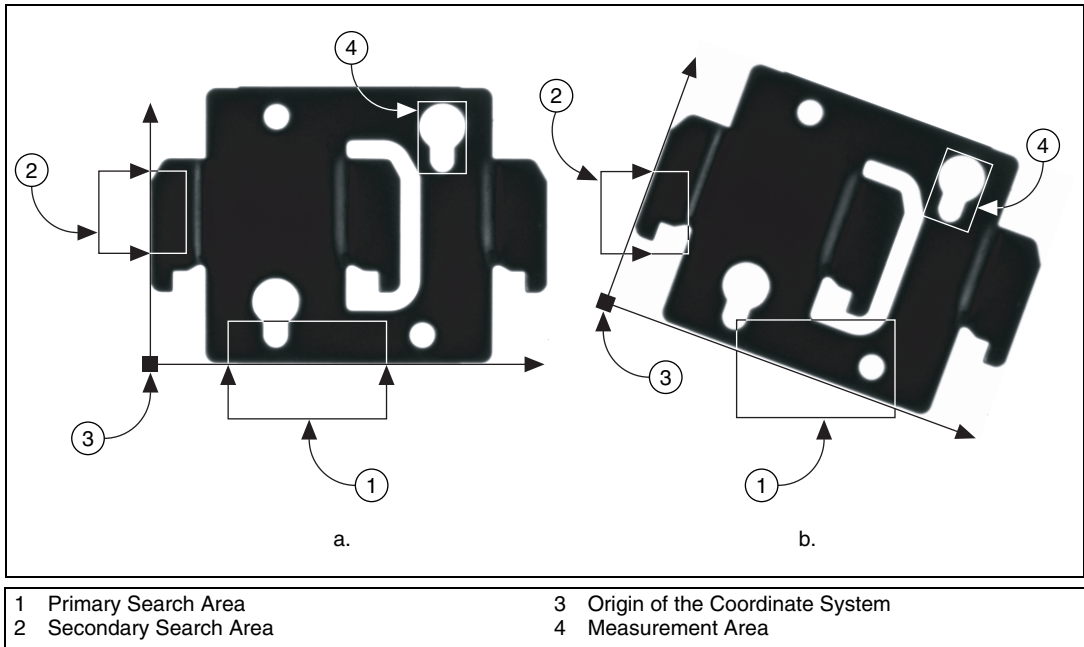

Figure 5-3. Locating Coordinate System Axes with Two Search Areas
- b. If you use `imgaFindTransformRects()`, specify two rectangular objects, each containing one separate, straight boundary of the object, as shown in Figure 5-3. The boundaries cannot be parallel. The regions must be large enough to include the boundaries in all the images you want to inspect.